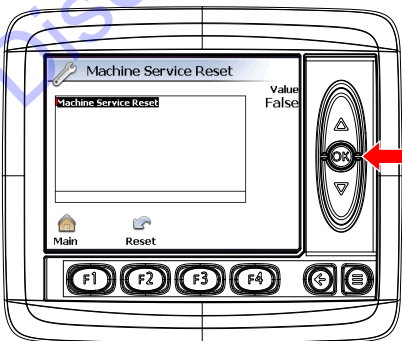

Figure 77. Machine Service Reset
5. Press the OK button again to select **Machine Service Reset** (Figure 77).